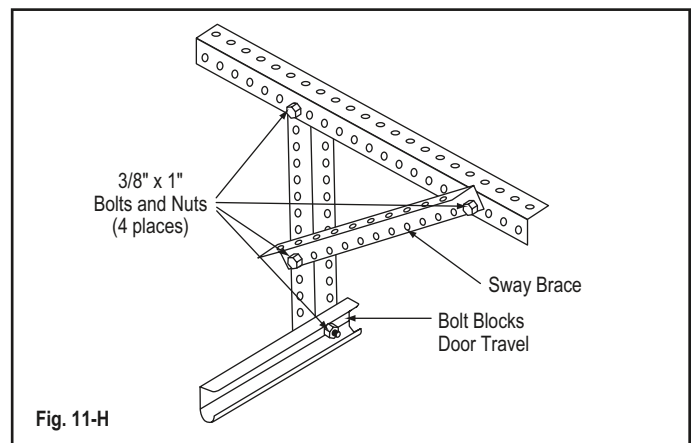

Fig. 11-H
**Step 11- 8, Continued:** Adjust the position of the tracks if the squareness distances are not within 1/2" of each other. Horizontal track can be out of level up to 1" from front jamb to rear track hanger. (Fig. 11-I)